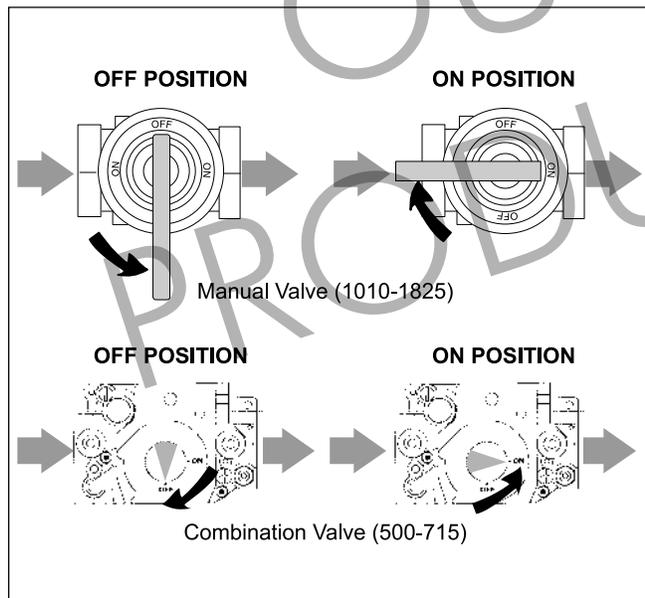

Figure 19. Handle Position of Gas Valves.
- b. Sizes 1010 through 1825: Manual gas valve is OFF when handle is at right angle to the gas pipe (see Figure 19).
- a. Size 500 and 715 - Turn counterclockwise to ON (see Figure 19).
- b. Sizes 1010 through 1825 - Valve is ON when handle is parallel to the gas pipe (see Figure 19).
6. Turn off manual gas valve. Valve is off when valve handle is at right angle to the gas pipe. On combination valves (size 500 and 715) turn gas control knob clockwise  to OFF position (see Figure 19).
7. Wait five (5) minutes to clear out any gas. Then smell for gas, including near the floor. If you smell gas, STOP! Follow the safety information titled "Before Operating". If you don't smell gas, go to next step.